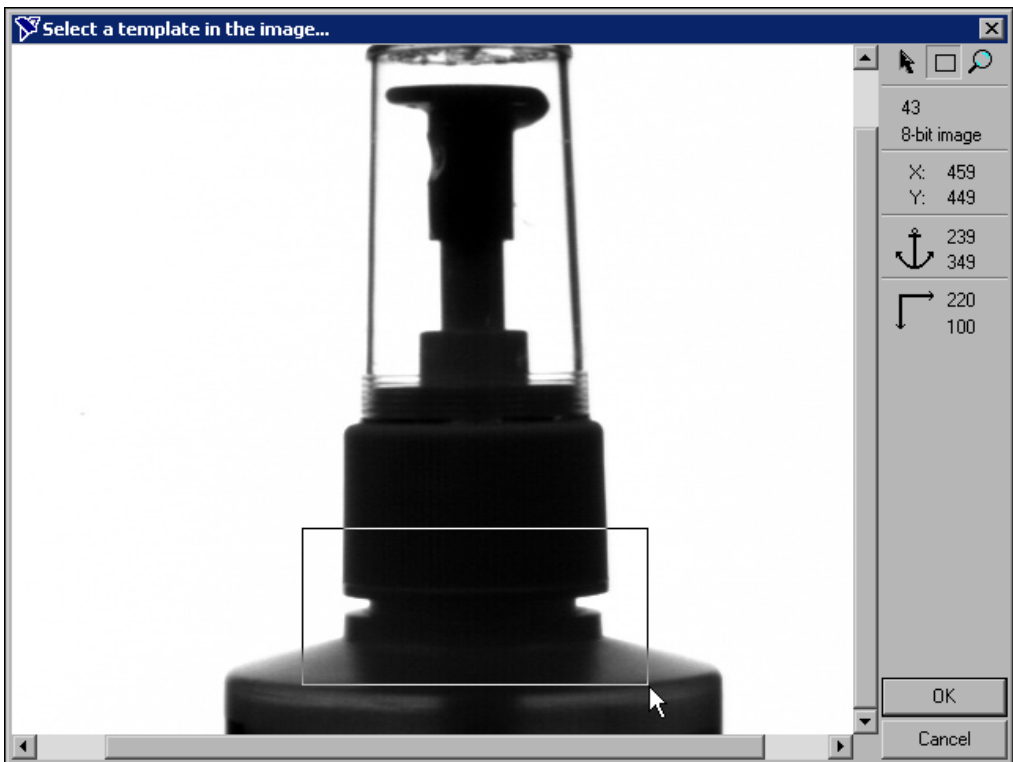

Figure 2-1. Creating a Template Pattern
3. Draw a region of interest around the base of the sprayer, as shown in Figure 2-1. This region becomes the pattern matching template.